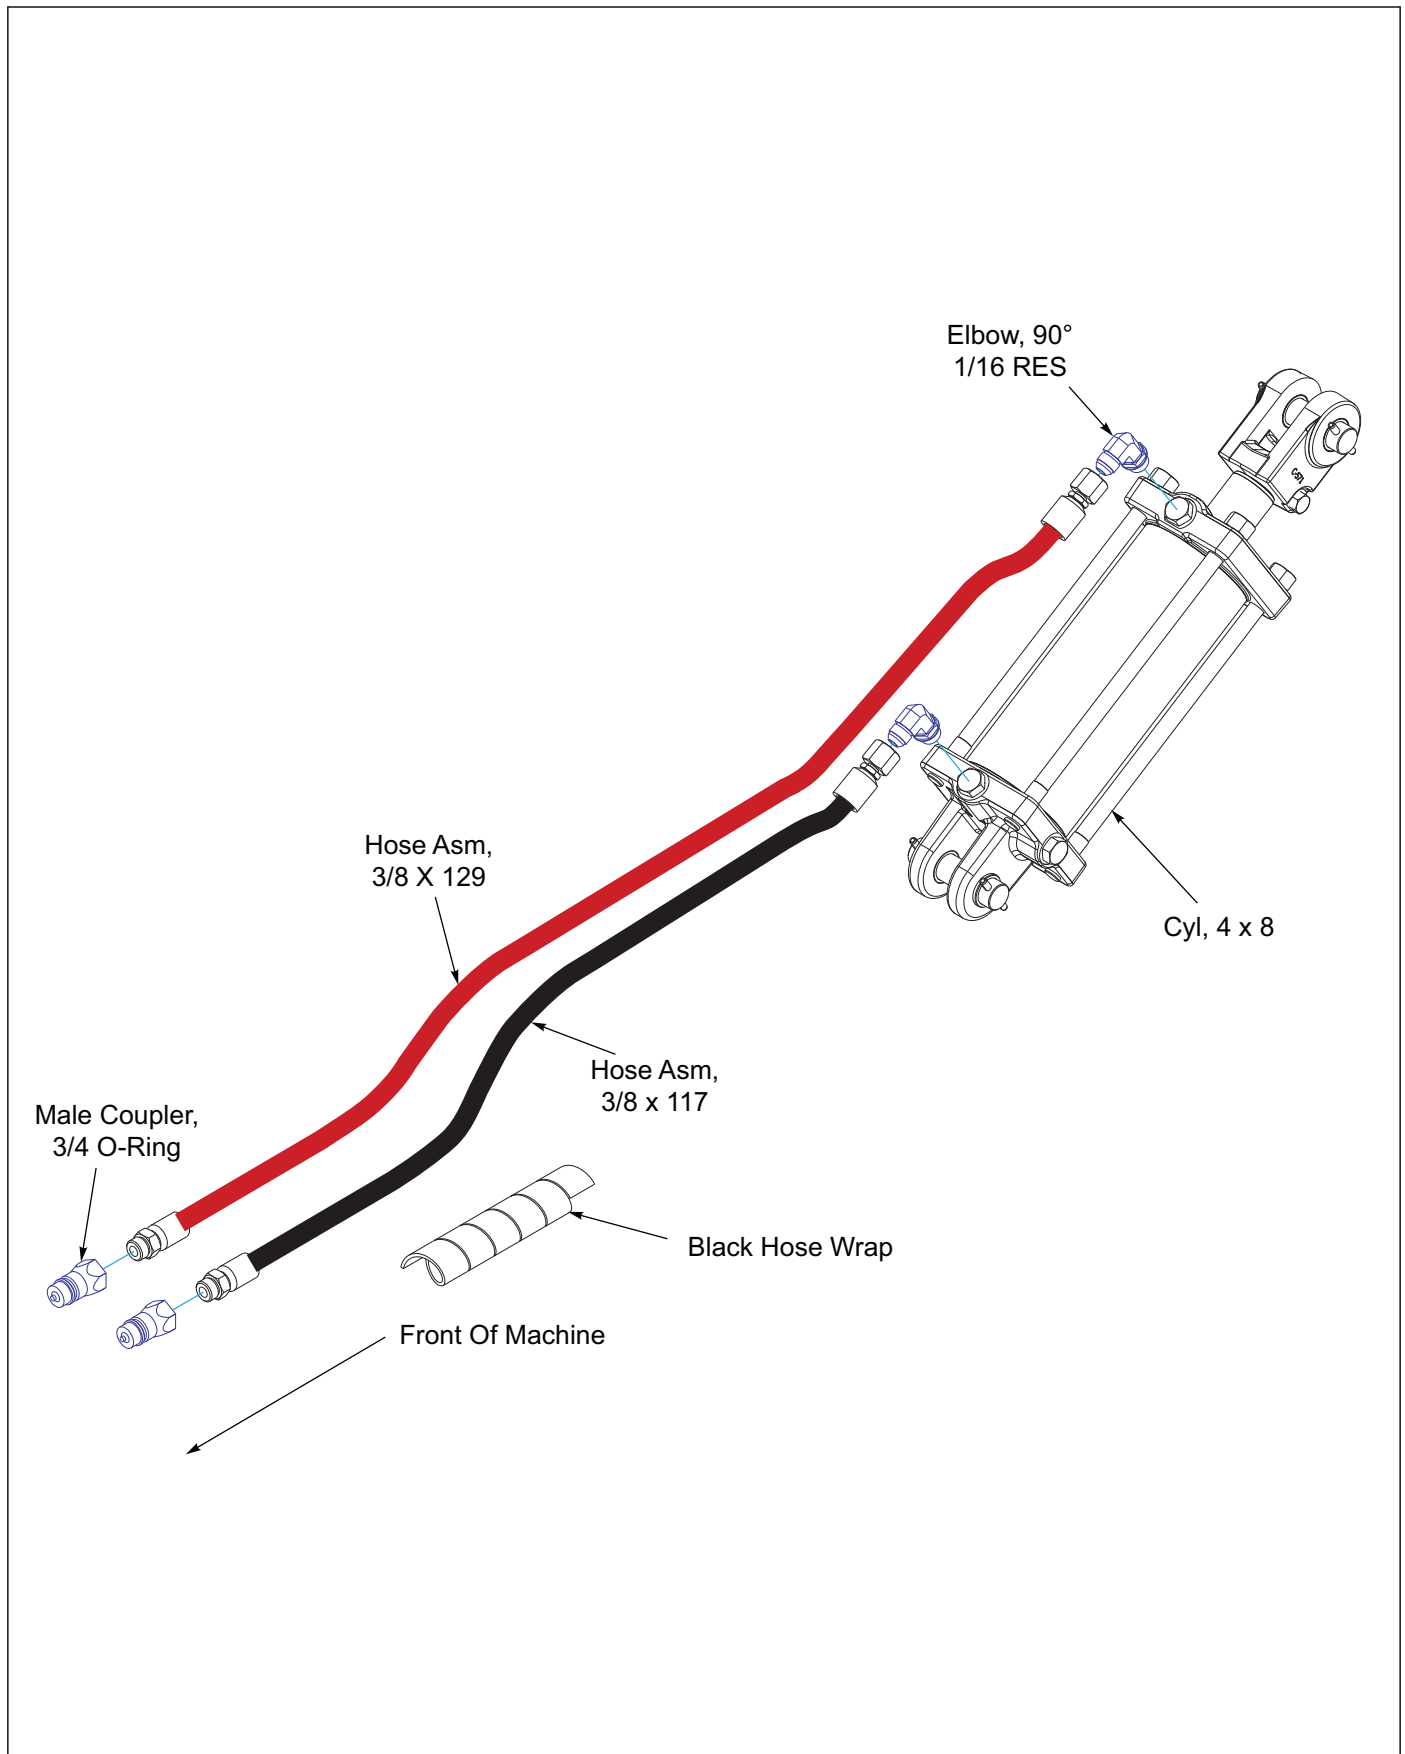
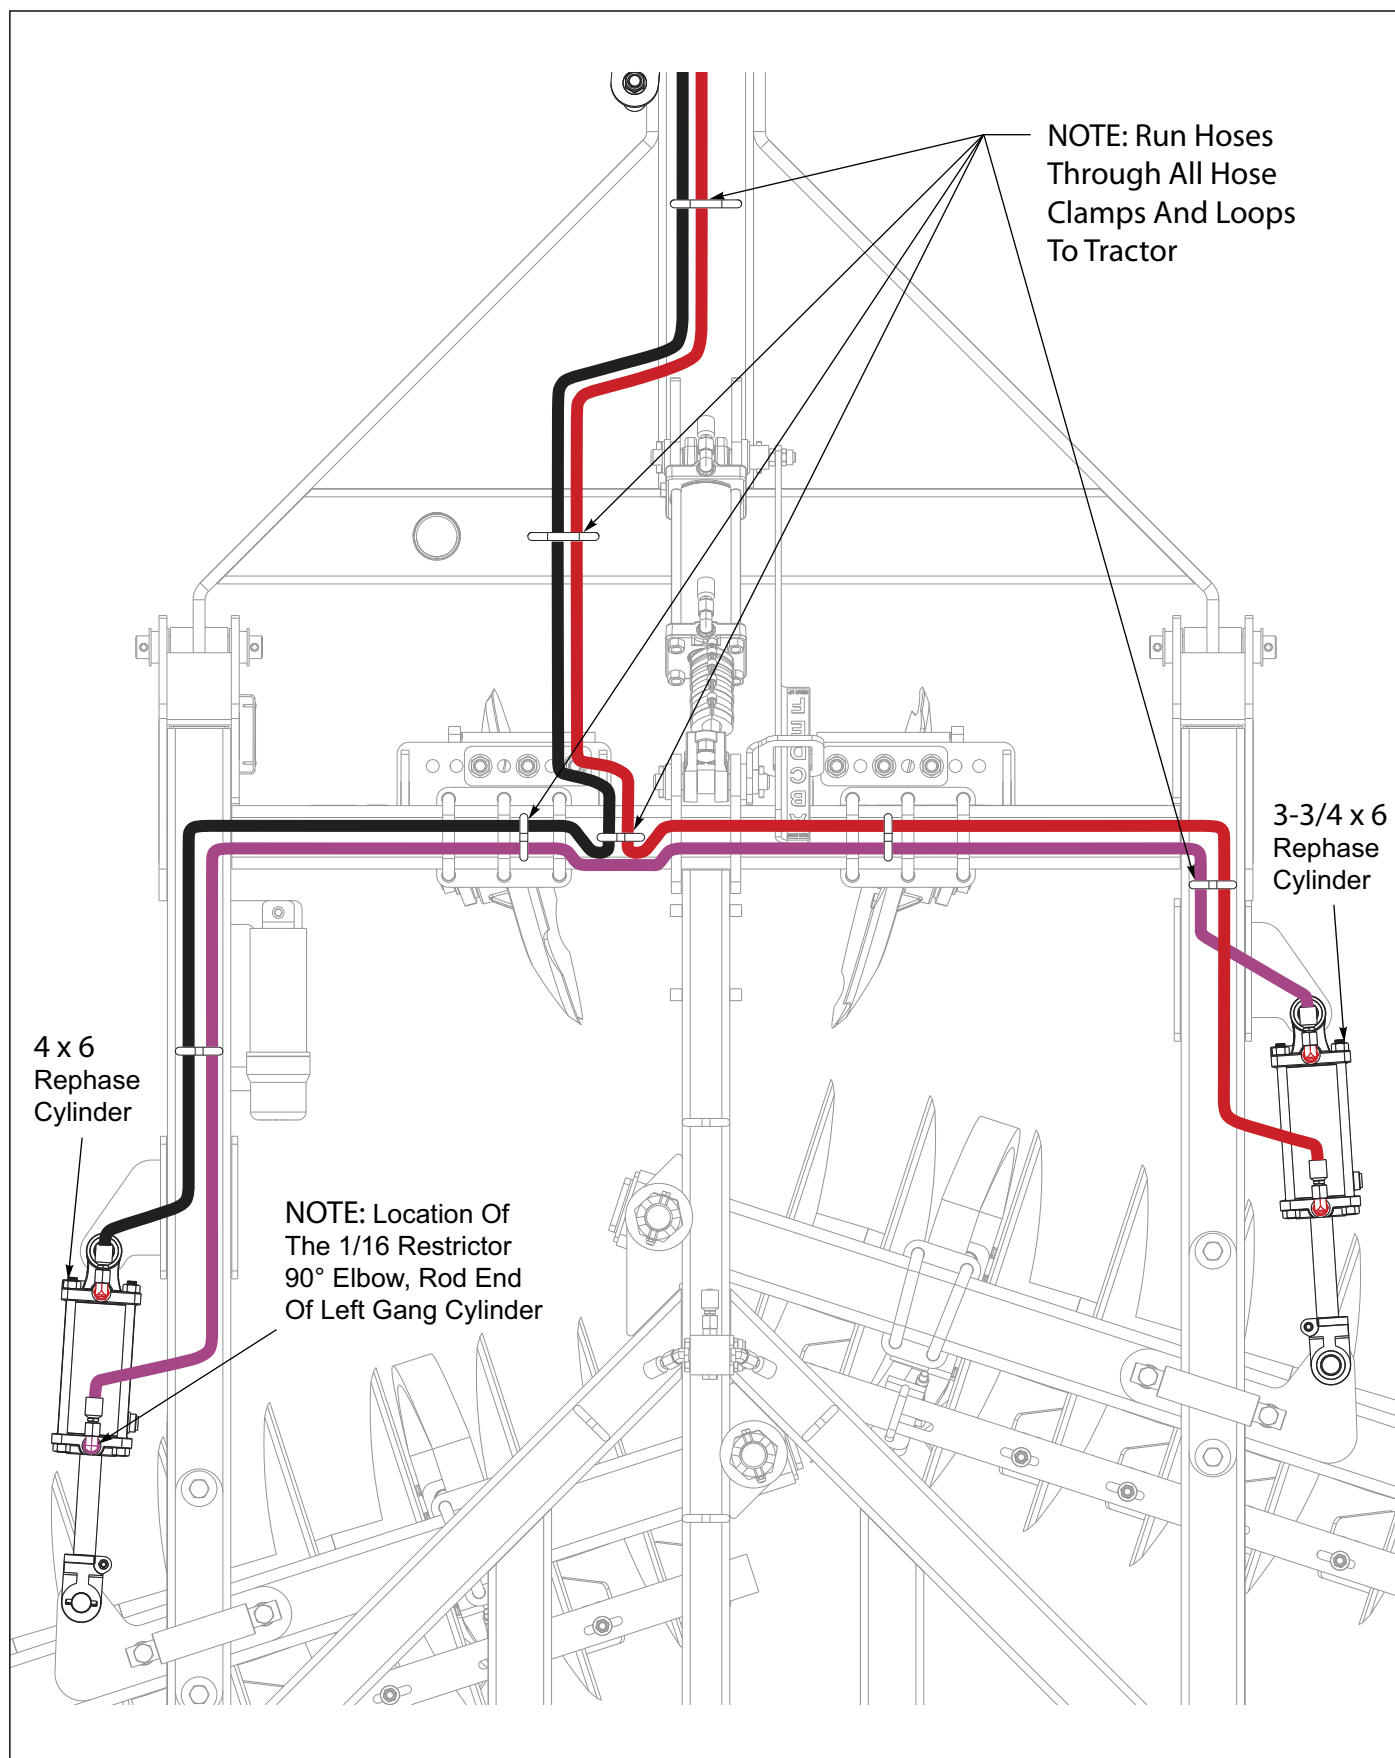

Figure 3-2: Hitch Hydraulic Assembly
Figure 3-6: Disc Gang Hydraulic Placement
1. **See Figure 3-2** through **See Figure 3-6** for proper hitch, lift and disc gang cylinder, fitting and hose installation.